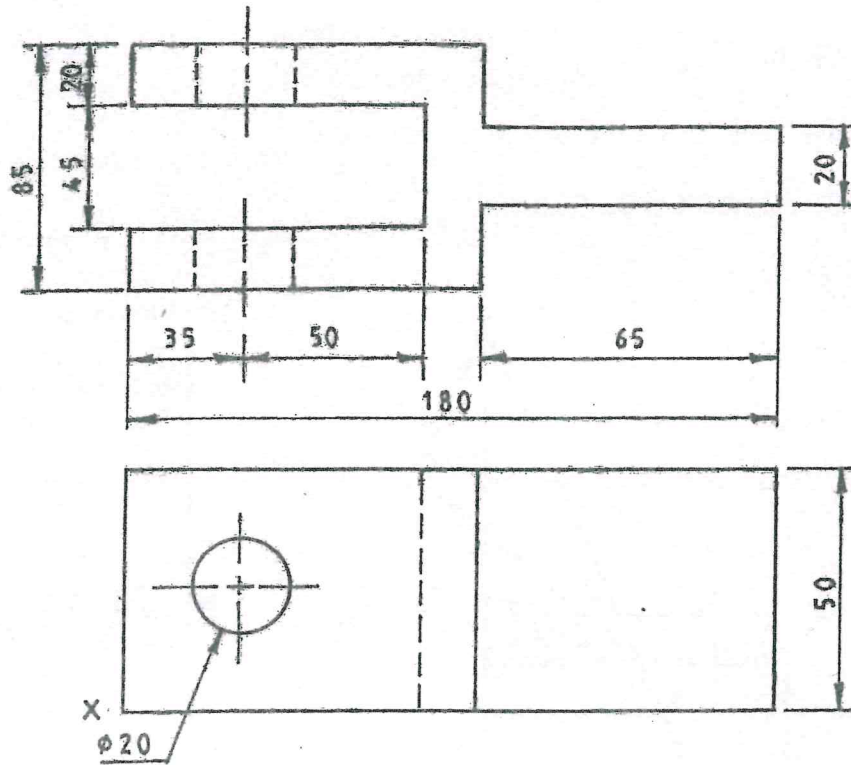

Fig. 3
8. Figure 3 shows two views of an object drawn in third angle projection.